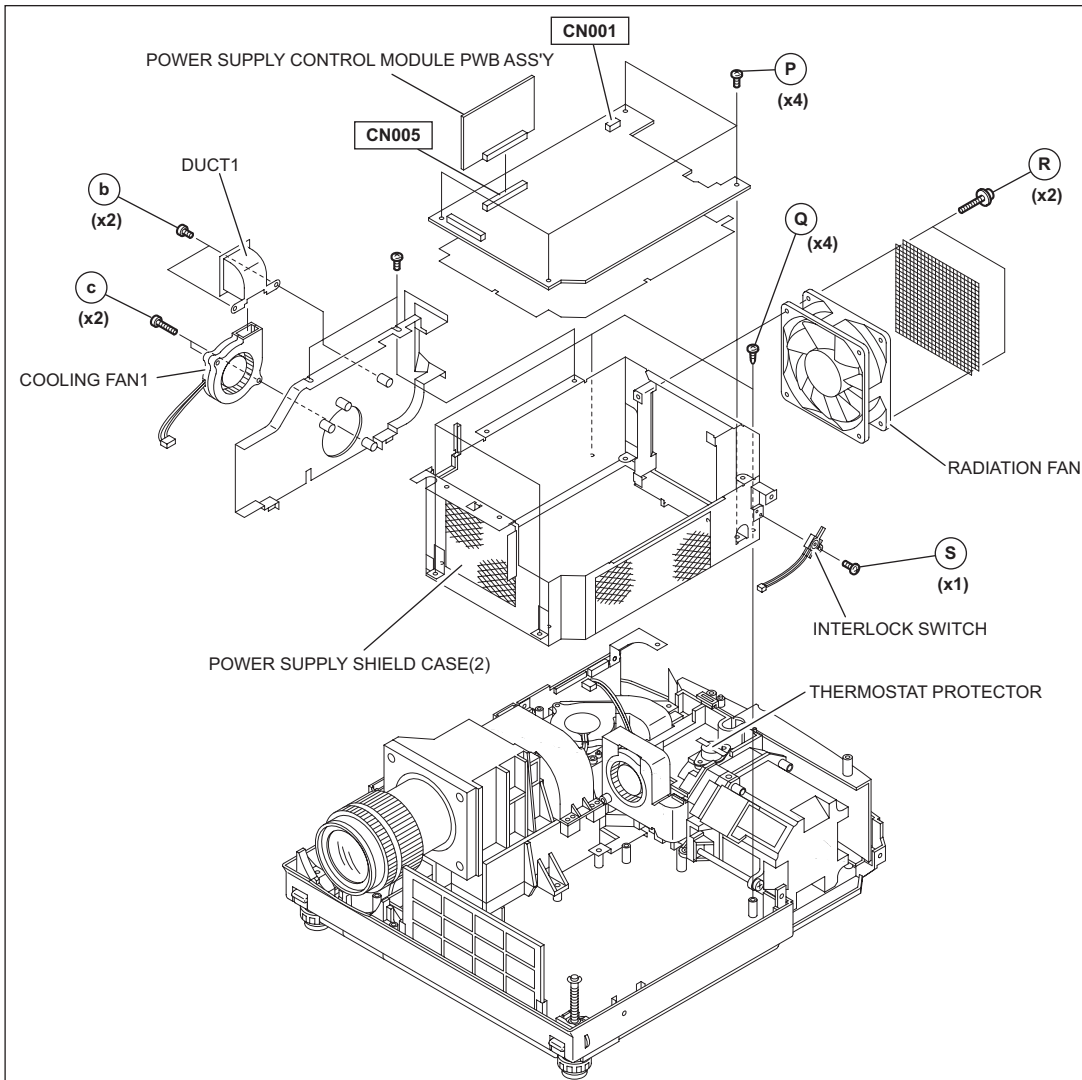

Fig.5
- (1) Remove the 4 screws marked **P** fixing the POWER SUPPLY PWB ASS'Y. (Fig.5)
- (2) Disconnect the POWER SUPPLY CORD from the connector CN001.
- (3) Pull out the harness from the THERMOSTAT PROTECTOR.
- (4) Pull out the POWER SUPPLY CONTROL MODULE PWB ASS'Y from CN005. (Fig.5)
- (1) Pull out the POWER SUPPLY CONTROL MODULE PWB ASS'Y from the connector CN005 of the POWER SUPPLY PWB ASS'Y. (Fig.5)
- (1) Remove the 4 screws marked **Q** fixing the POWER SUPPLY SHIELD CASE(2). (Fig.5)
- (2) Lift up the POWER SUPPLY SHIELD CASE(2) to remove it.
- (3) Remove the 2 screws marked **R** fixing the RADIATION FAN to the POWER SUPPLY SHIELD CASE(2). (Fig.5)
- (4) Remove the 1 screw marked **S** fixing the INTERLOCK SWITCH to the POWER SUPPLY SHIELD CASE(2), and remove the INTERLOCK SWITCH. (Fig.5)
- (5) Remove the 2 screws marked **b** fixing the DUCT1. (Fig.5)
- (6) Remove the 2 screws marked **c** fixing the COOLING FAN1. (Fig.5)